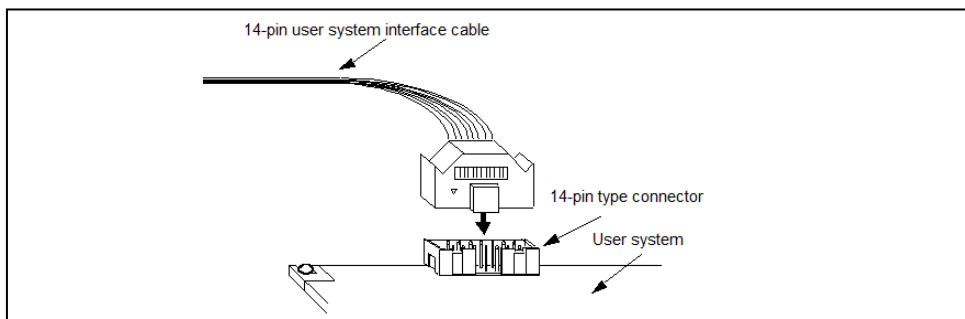

Figure 2-2 Connecting the User System Interface Cable to the 14-pin Connector in the E1 Emulator
Figure 2-2 shows an example of the connection of the user system interface cable of an E1 emulator to a 14-pin connector.
- Note 2: Pulling up of JP0_0 is only necessary if you are using the 1-pin LPD interface. If you are not using 1-pin LPD, make the connections shown in Figure 2-2.
(3) Connection which allows Both debugging (1-pin LPD) and programming (1-wire UART)